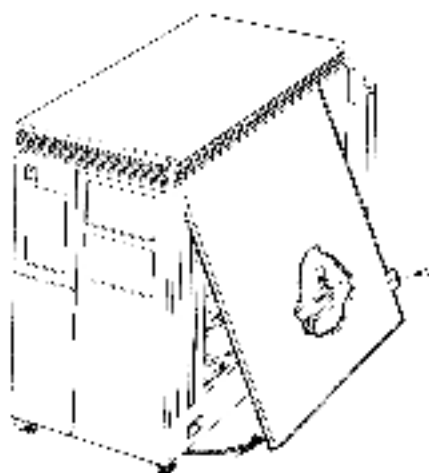

Figure 10-2 Right-Side Panel Unhooking
3. Loosen the captive screws that connect the right side panel to the rear of the enclosure frame (Figure 10-2).